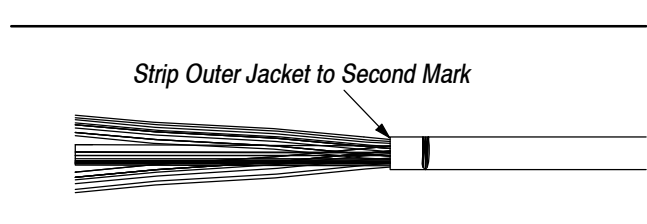

Figure 4
4. Using the combination strip tool, strip the outer jacket to the SECOND mark. See Figure 4.